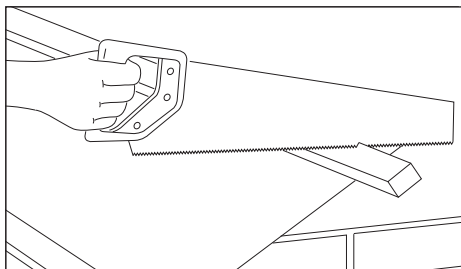

Fig. 1 – Saw fixing battens flush
- 2 Saw ends of tiling battens off flush with gable wall or bargeboard and nail within a maximum of 500mm from end (Fig. 1).